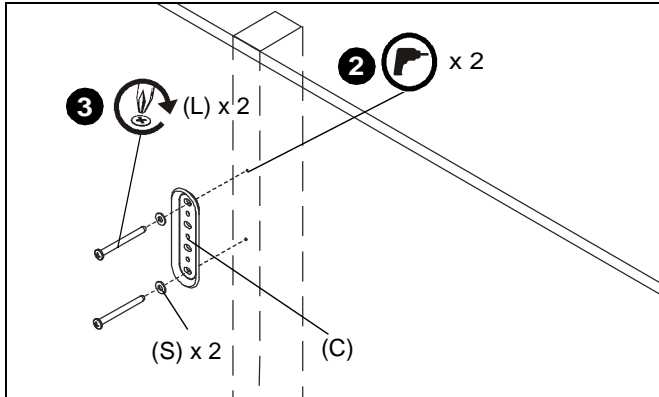

Figure 1
2. Using wall bracket (C) as a template, drill two 1/8" pilot holes through top and bottom holes of wall bracket (C) into wall structure. (See Figure 1)
3. Using Phillips screwdriver, install two #10 x 2 1/2" Phillips pan head tapping screws (L) through #10 washers (S), wall bracket (C) and drywall into wood stud. Ensure bracket (C) is vertical, then tighten screws (L). (See Figure 1)